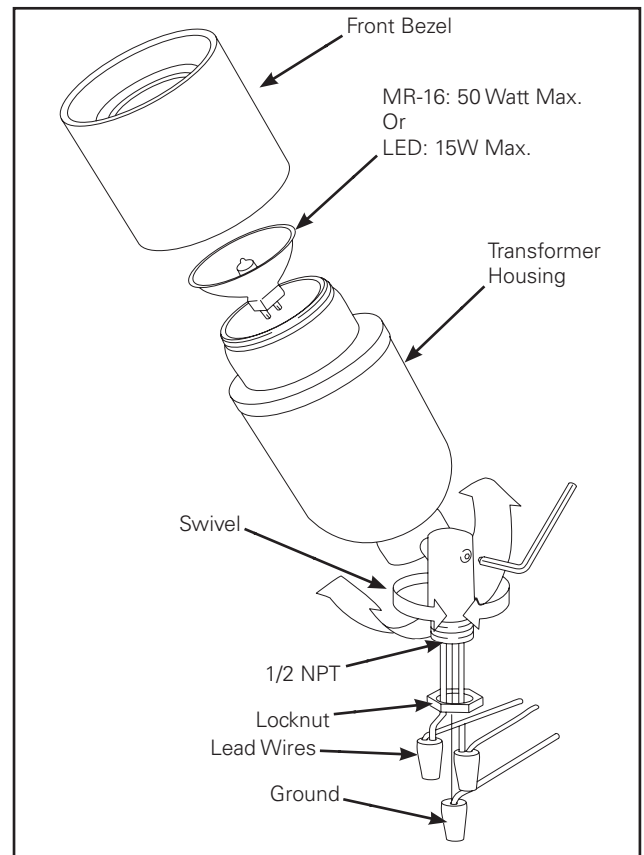

Figure 1.
- MR16: To install MR-16 lamp into fixture, unscrew front bezel push lamp pins into small holes in socket, replace bezel. If bezel becomes difficult to screw into body, then loosen small set screws on the outer shroud and screw bezel onto body. Do not over tighten small set screws. (Figure 1.)